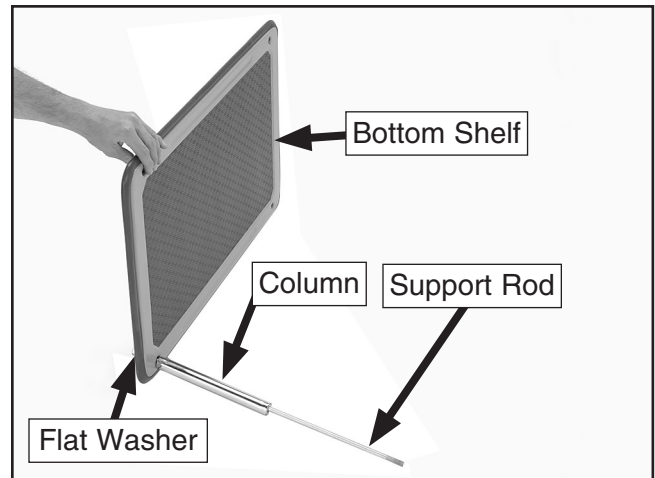

Figure 2. Support rod and column installed onto bottom shelf.
1. Insert a support rod with a 10mm flat washer through a mounting hole in the bottom shelf, then slide a column onto the rod, as shown in **Figure 2**.